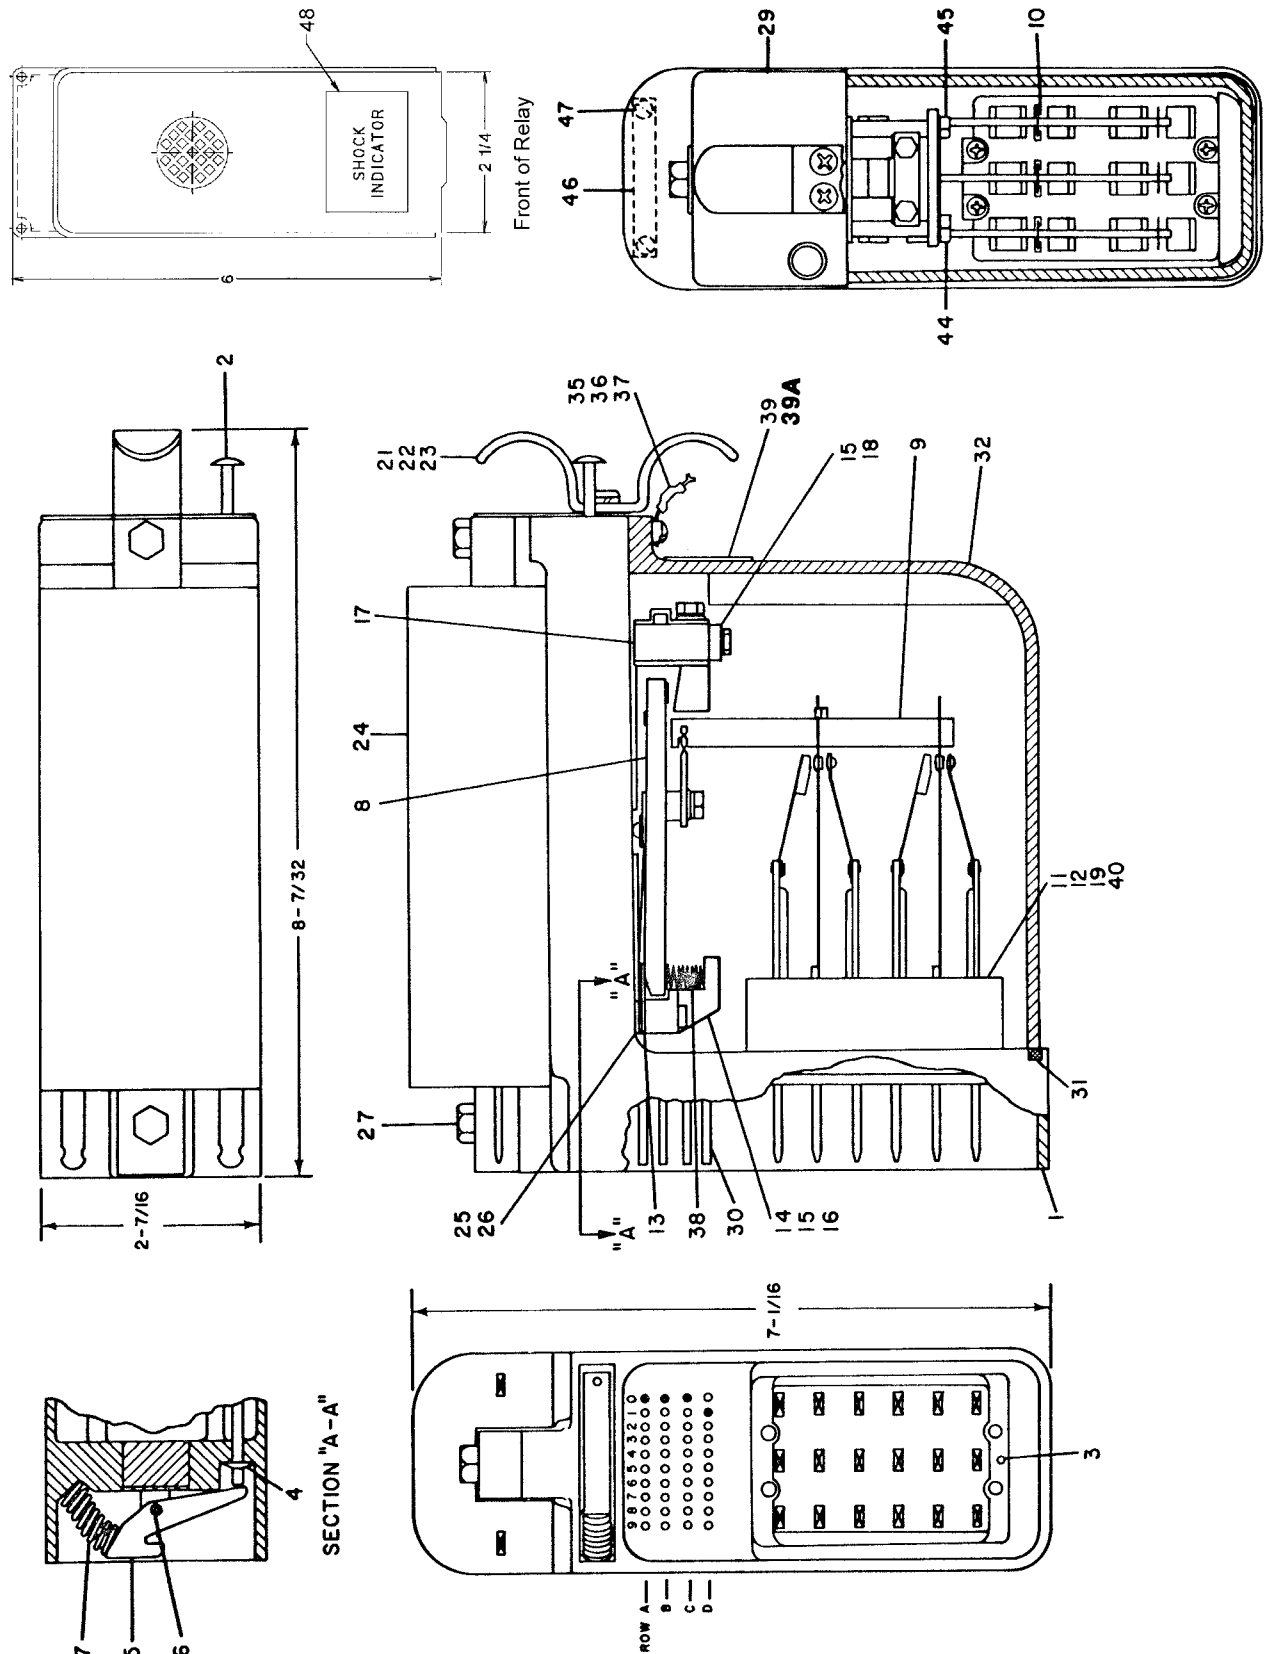

Figure A-1. PN-150B Relays With Individual Contact Drivers
A.1 Parts List for PN-150B Relay with Individual Contact Drivers (Figure A-1)
A.1 PARTS LIST FOR PN-150B RELAY WITH INDIVIDUAL CONTACT DRIVERS (FIGURE A-1) (CONTINUED)